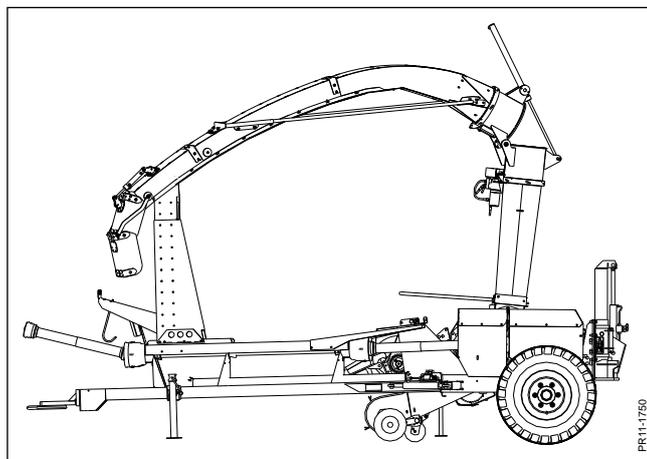

Fig. 3-17
**Fig. 3-17** The machine can be fitted with a chute that permits loading of very high trailers. This chute is more than 4 m high and must be folded down during transport, so that it rests on a stand on the drawbar. This reduces the transport height to less than 4 metres.